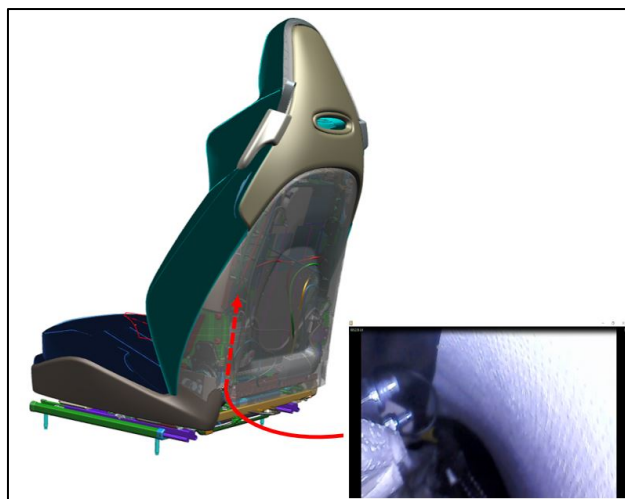

Figure 5
3. Use an endoscope on the underside of the seat to examine the two locking nuts for the seat airbag (refer to Figure 5).